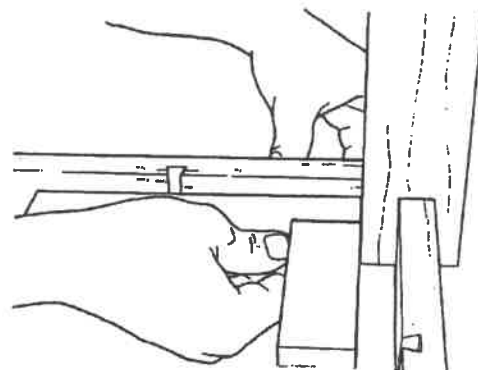

Fig. E-16
27. Use a precision square to assure both rails are squared with the leg. See Fig. E-16.